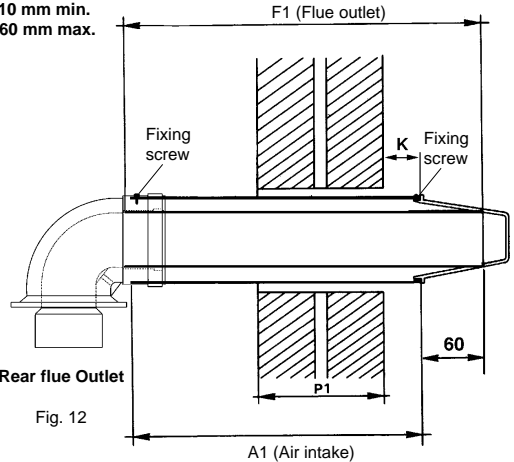

Fig. 12
4.1 Rear Flue Outlet (fig. 12)
- 6.1.5 Check the terminal relationship with the wall as shown in fig. 12.